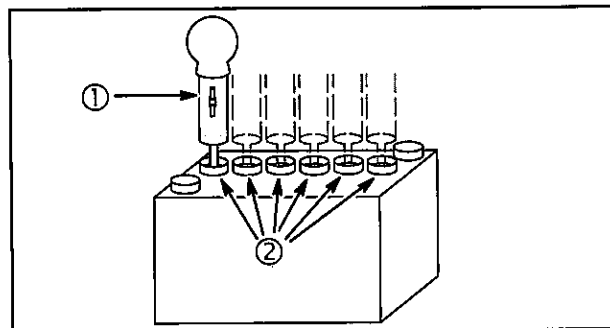

Fig. 43
8. With battery fully charged, check specific gravity readings of each cell (2) with a hydrometer (1) and record readings, **Fig. 43**. All readings should be above **1.250** (compensating for temperature). If specific gravity readings vary **.50** or if all cells read less than **1.225**, replace battery.